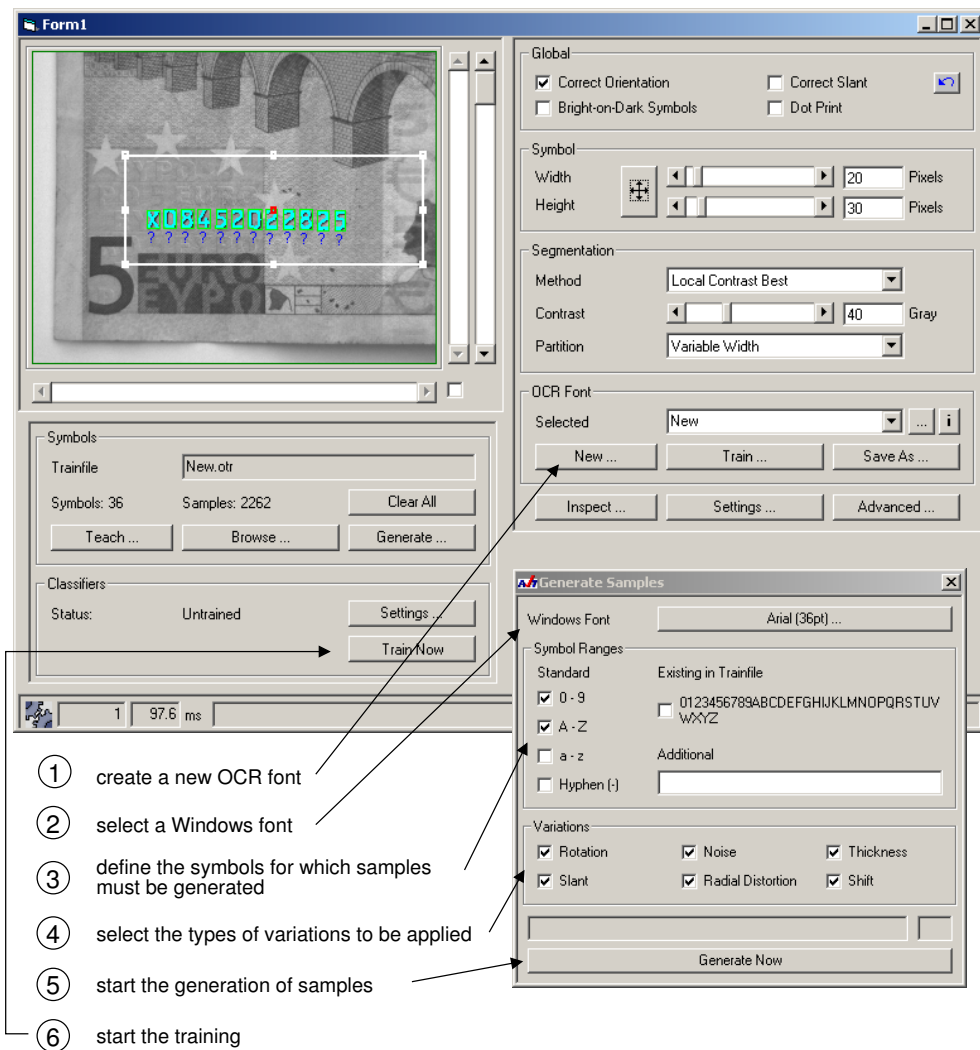

Figure 2.9: Generating samples for an OCR font .
The following steps are visualized in figure 2.9.
Figure 2.9 shows the state of the application between step ⑤ and step ⑥. The trainfile contains already samples for the symbols but the state of the OCR font is still untrained.